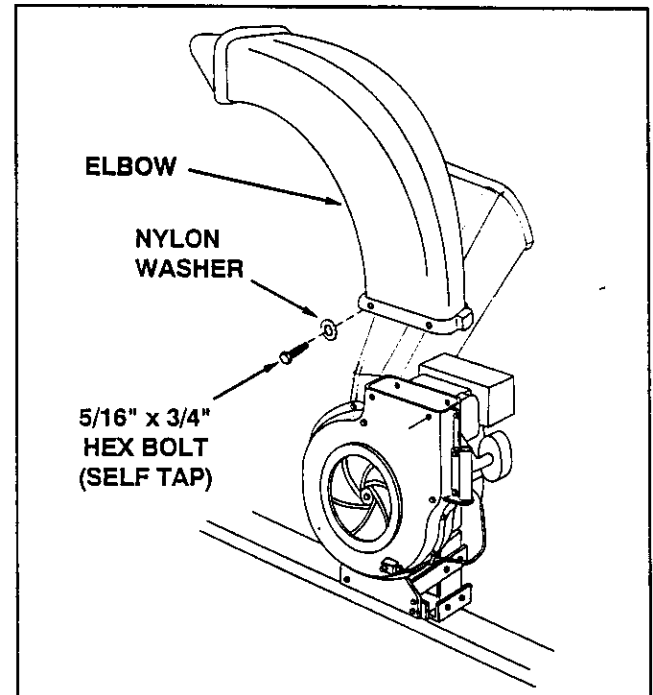

FIGURE 23
- Assemble the elbow to the blower housing, using four 5/16" x 3/4" self tapping hex bolts, and four nylon washers. Tighten bolts securely. See figure 23.